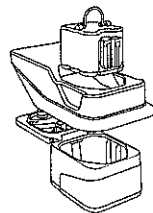

Figure 3. Install Battery
4. Hold the non-sterile battery by the handle (see figure 3).